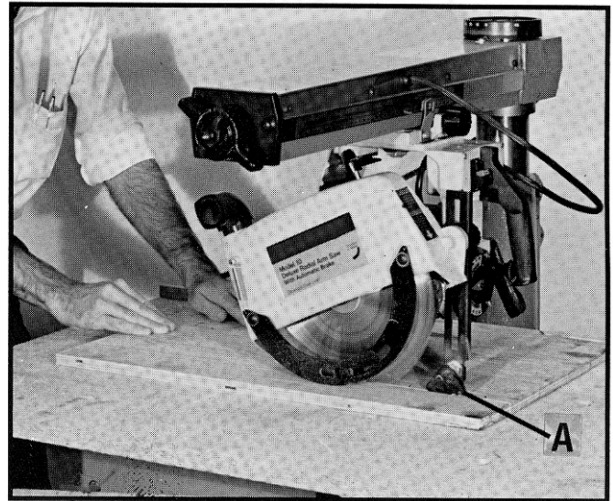
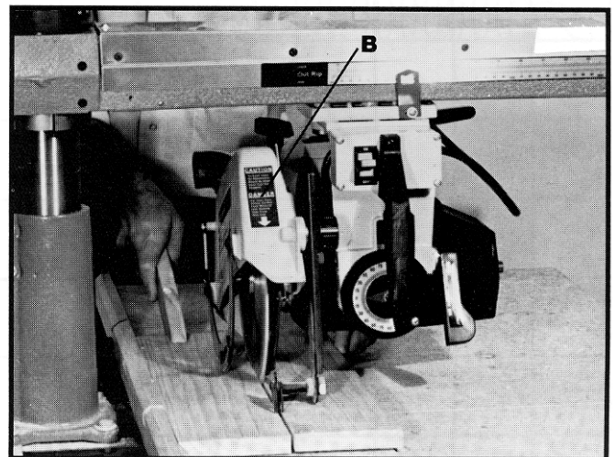

Fig. 68
Fig. 69
Ripping involves making a lengthwise cut through a board along the grain. When ripping, the track arm is clamped at "0" on the miter scale. The yoke is then positioned and clamped so that the blade is parallel to the fence in either the inboard or outboard position. When feeding the material, one edge rides against the fence while the flat side of the board rests on the table. The guard should be lowered on the infeed side until it almost touches the workpiece, as shown in Figs. 68 and 69, to act as a holddown. The splitter and anti-kickback fingers (A) Fig. 68, should be adjusted accordingly. The operators hands should always be well away from and to the side of the blade. When ripping narrow work, always use a push stick such as shown in Fig. 69, to push the work between the fence and blade. The workpiece must have one straight edge to follow the fence. If board is bowed, place hollow side down. The cuttinghead clamp knob should be securely tightened for all ripping operations. Pay particular attention to warning label (B) Fig. 69, which states that material must never be fed into the outfeed end of the blade guard.
Out-ripping involves all of the general conditions stated above. The yoke is clamped at right angle to the track arm with the blade guard facing the front of the machine. The cuttinghead is positioned on the out-rip scale to the desired setting and clamped in position. The workpiece is fed from the left side of the saw. Fig. 68, shows a typical out-ripping operation on the radial saw.
In-ripping involves all of the general conditions stated under **RIPPING**. The yoke is clamped at right angle to the track arm with the blade guard facing the rear of the machine. The cuttinghead is positioned on the in-rip scale to the desired setting and clamped in position. The workpiece is fed from the right side of the saw. Fig. 69, shows a typical in-ripping operation on the radial saw. Note the push stick being used due to the narrow workpiece.